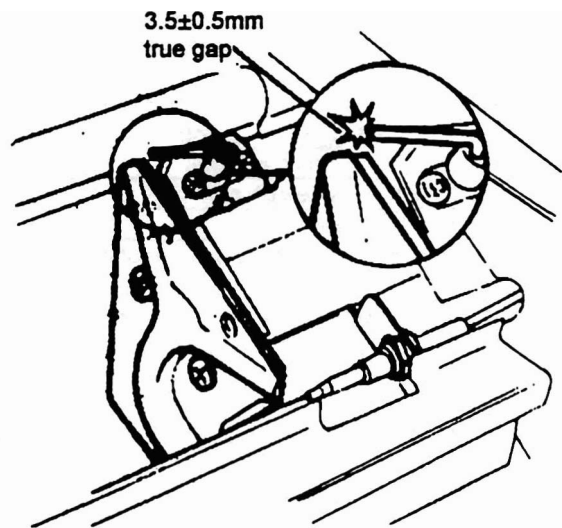

Fig.6 Pilot Ignition system
6.2 Check ignition electrode spark (see figure 6)